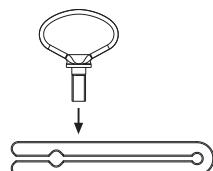

Fig. 18
- Mount extraction tool, see Fig. 18.